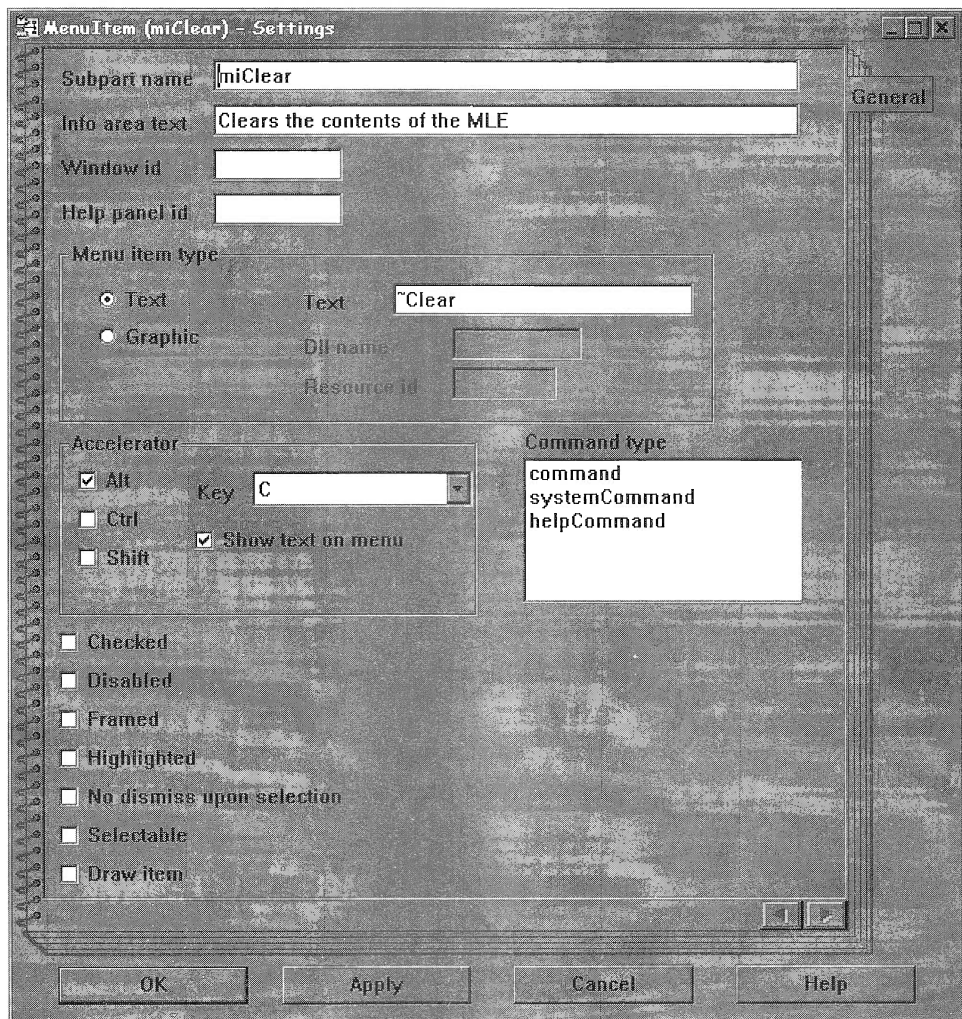

Figure 127: Settings notebook for IMenuItem
- ☐ Add accelerator keys to the **Clear** and **Exit** menu items by opening their settings notebooks as shown in Figure 127. Use Alt+C and F3 respectively.